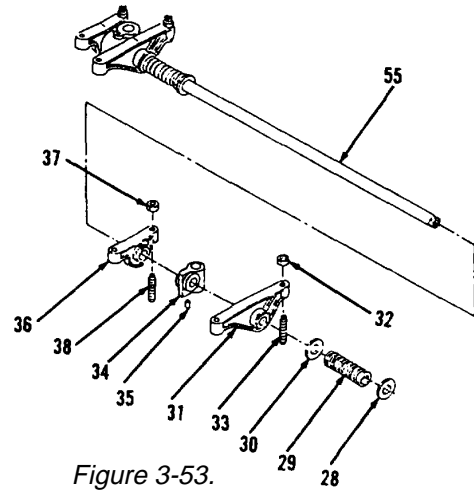
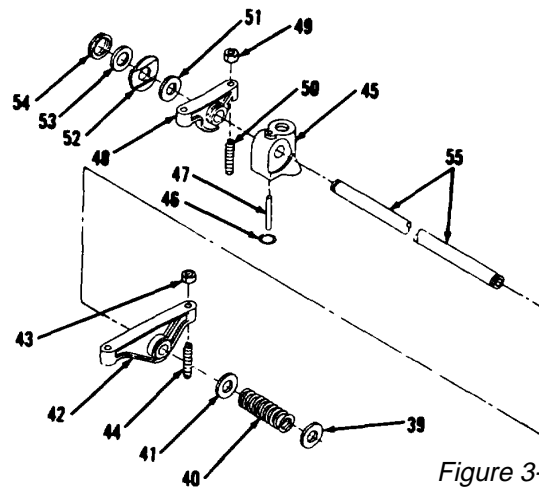
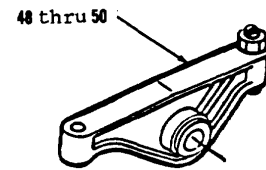

Figure 3-53.
Figure 3-55.
Figure 3-58.
19. Remove washer (28), spring (29) and washer (30, Figure 3-53).
21. Remove lock nut (32) and screw (33) from arm (31, Figure 3-53).
22. Remove bracket (34) from shaft (55).
23. Remove dowel (35) from bracket (34).
24. Remove arm (36) from shaft (55).
25. Remove lock nut (37) and screw (38) from arm (36).
26. Remove washer (39), spring (40) and washer (41, Figure 3-55).
28. Remove lock nut (43) and screw (44) from arm (42, Figure 3-55).
30. Remove and discard preformed packing (46) from bracket (45, Figure 3-55).
31. Using hammer and punch, remove dowel (47) from bracket (45).
32. Remove items 48 thru 50 as an assembly (Figure 3-58).